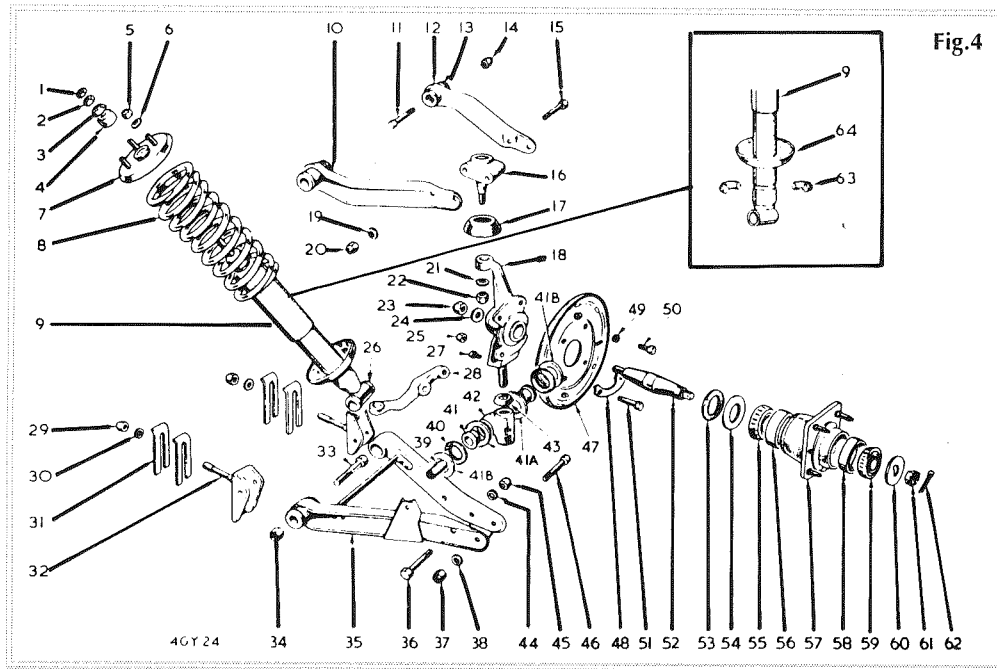

Fig. 4
Using a stronger action to shake the wheel, check that there is no movement in any of the main joints i.e. the top ball joint (Figure 4, ref. 16) or the
high pressure grease gun, the type with a flexible connection being most useful because accessibility is variable. The points that need greasing vary as we shall see. Some types of upper ball joint (Fig 4, no. 16) and tie rod ball joint (Fig 2, no. 44) have grease nipples. Two or three pumps of the gun should be enough to see old grease appear from the rubber gaiter. Stop as soon as new grease appears, then wipe off the excess. The other place is on the rack (Figure 2, no. 28) where you will find a 7/16 inch headed bolt. Undo this and replace it with
a grease nipple of the correct size - you will probably have to take the bolt to a local accessory shop to get a suitable match. Only pump the gun about 3 times, no more, because there is nowhere for the excess to escape. Then turn the steering wheel from lock to lock a few times to help distribute the grease in the rack - obviously the front wheels still need to be off the ground!! When you've finished, replace the original bolt and do not forget the electrical tag that goes underneath it to provide a good earth for the horn. The last items to lubricate are the infamous trunnions (Fig. 4, no. 42). The important point with these